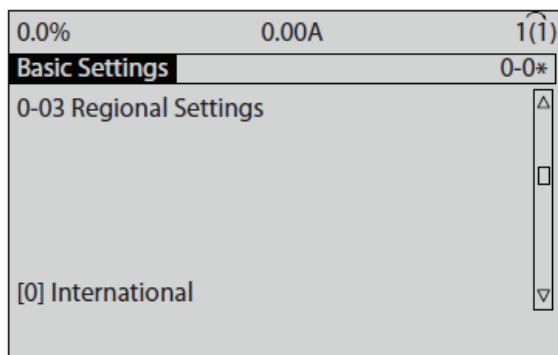

Fig. 26 — Basic Settings
- Press navigation keys to scroll to 0-03 Regional Settings and press [OK]. See Fig. 26 for Basic Settings illustration.